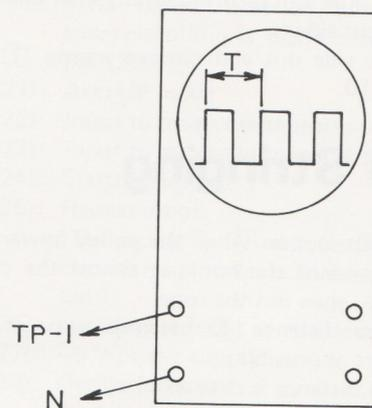

Fig. 16
2. Connect an oscilloscope between TP-1 and N on the motor board as shown at right. (Fig. 16)